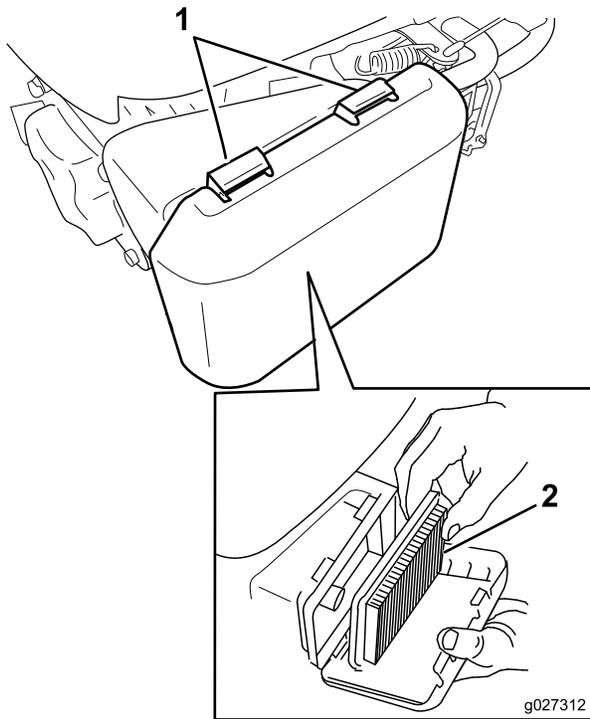

Figure 18
- Press down on the latch tabs on top of the air-cleaner cover (Figure 18).